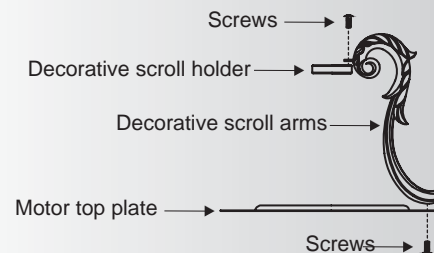

Fig. 7
Step 4. Attach the decorative scroll arms to the decorative scroll holder and the motor top plate with the screws provided. (Fig. 7)